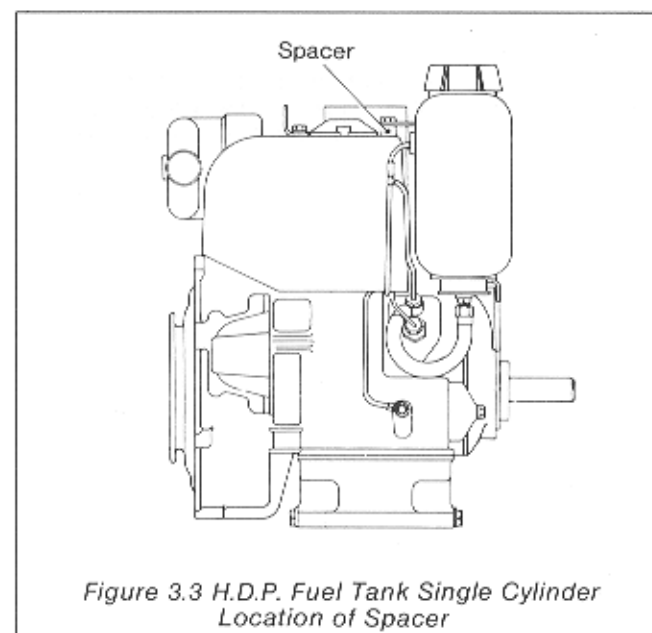

Figure 3.3 H.D.P. Fuel Tank Single Cylinder Location of Spacer
- (1) Fit the spacer on the cylinder head stud. (Figure 3.3)
- (2) Locate the top bracket of the fuel tank over the cylinder head stud.
- (3) Fit the bottom bracket retaining setscrews complete with a new tabwasher. Tighten the setscrews and bend the tabwasher to lock in position.
- (4) Fit the top bracket self-locking nut and plain washer.
- (5) Connect the fuel pipes and fill the tank with the correct grade of fuel.